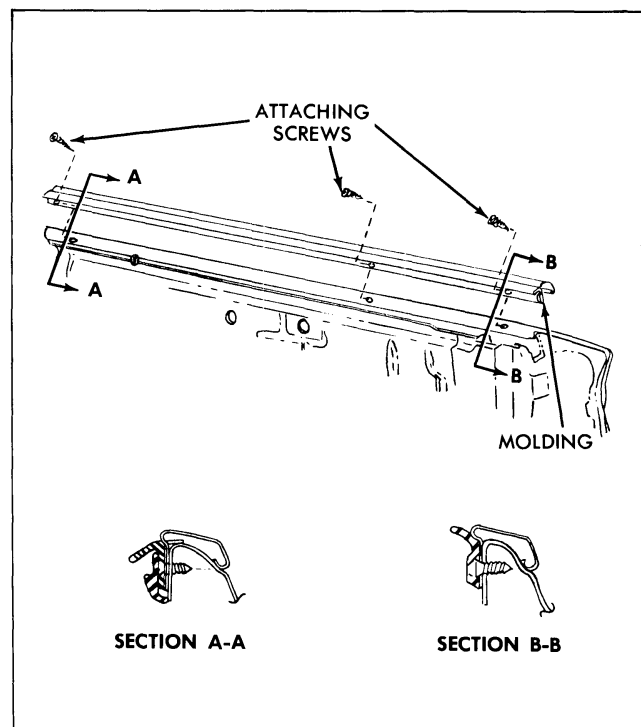
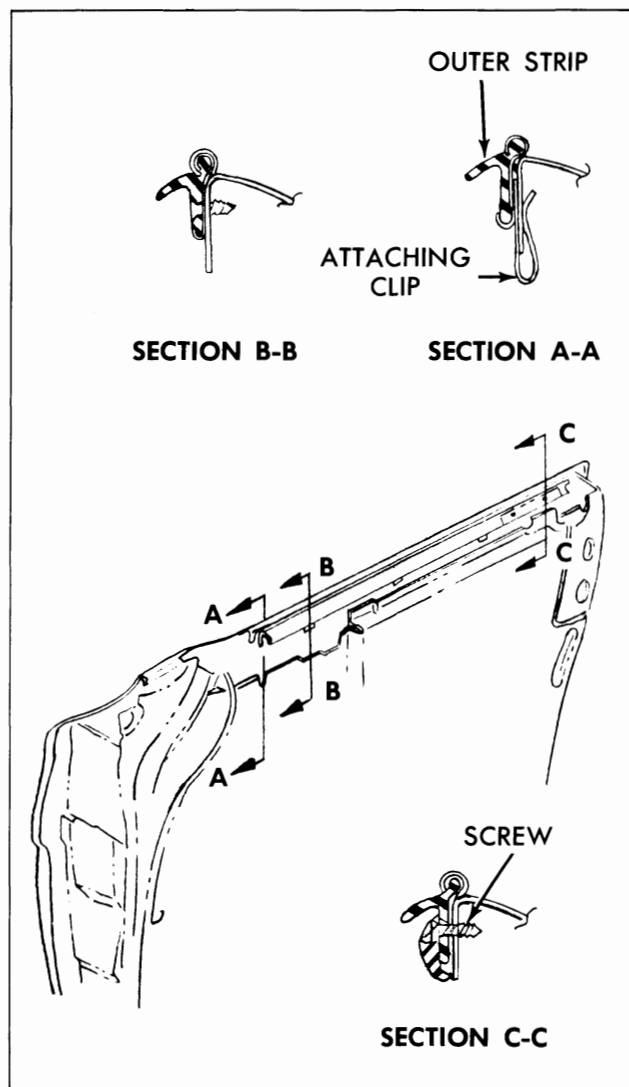

Fig. 3-3 Channel Outer Strip
Fig. 3-4 Channel Outer Strip
4. Remove all outer strip attaching screws (three screws on styles equipped with a belt reveal molding and two screws on all other styles). See Fig. 3-3 for styles with a belt reveal molding and Fig. 3-4 for all other styles.